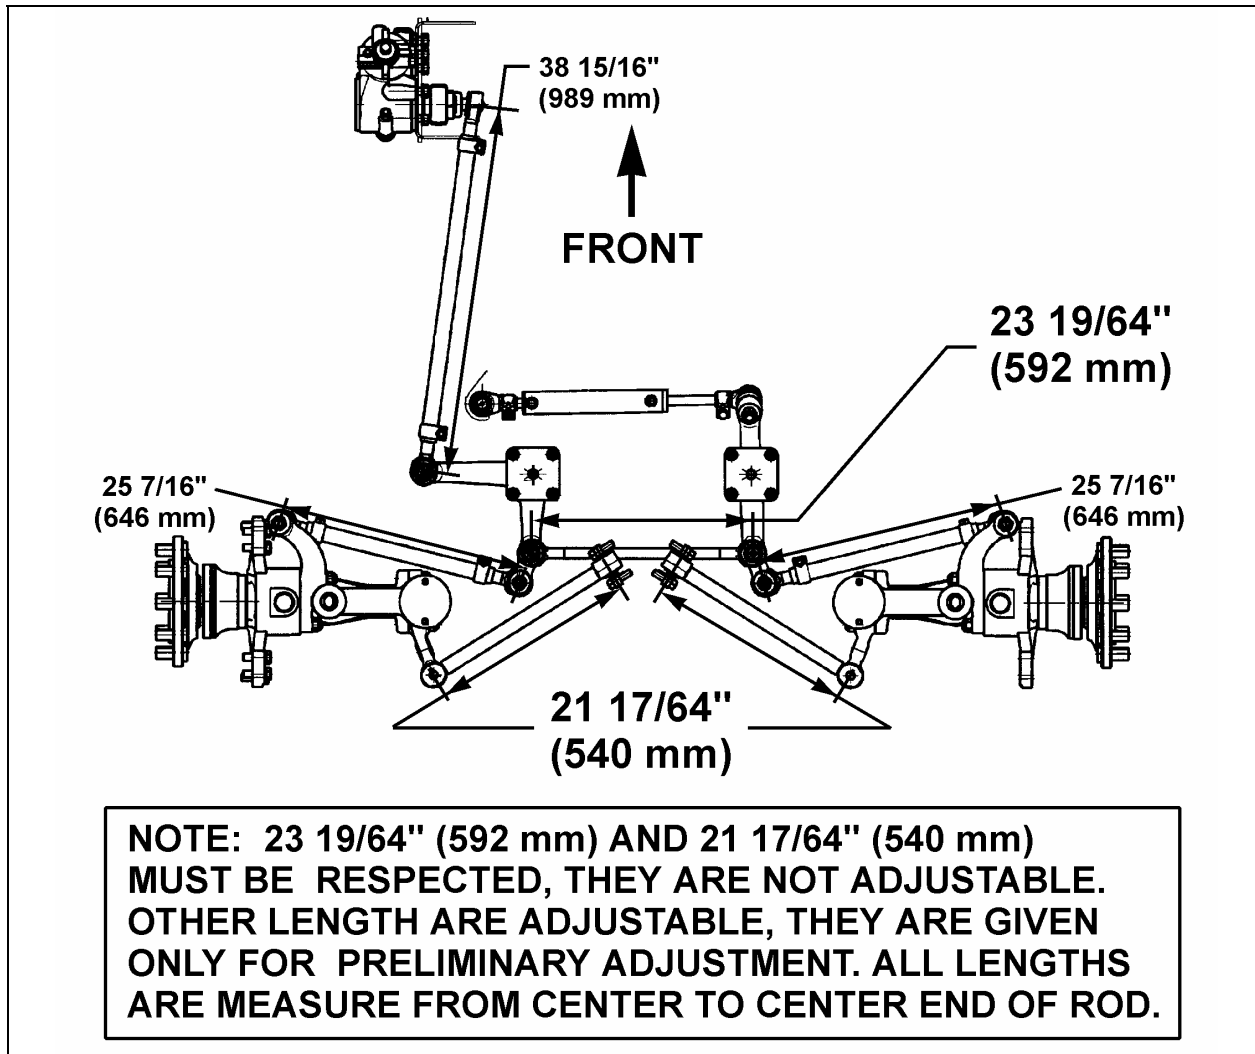

FIGURE 20: STEERING LINKAGE MEASURE
7. Check if the length of the torque rod is 21 17/64" (540 mm) (Fig. 20). Check if the length of the relay rod is 23 19/64" (592 mm).